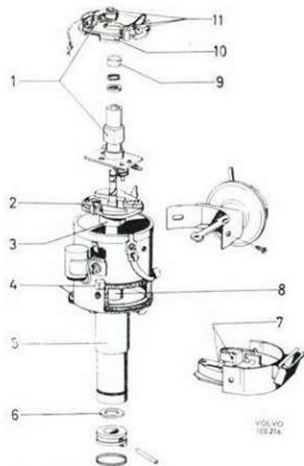

Fig. 3-106. Lubricating scheme for distributor
- Lubricate the distributor parts according to the instructions given in Fig. 3-106.
4. Lubricate the distributor according to the instructions given in Fig. 3-106.